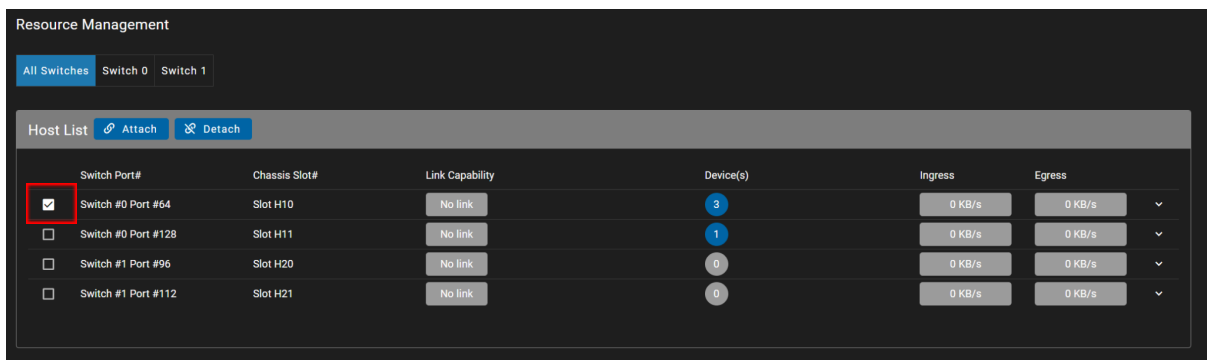

Figure 72. Selecting Host for GPU Unassignment on GUI
- A. Navigate to the Resource Management interface in the GUI (refer to Figure 72).